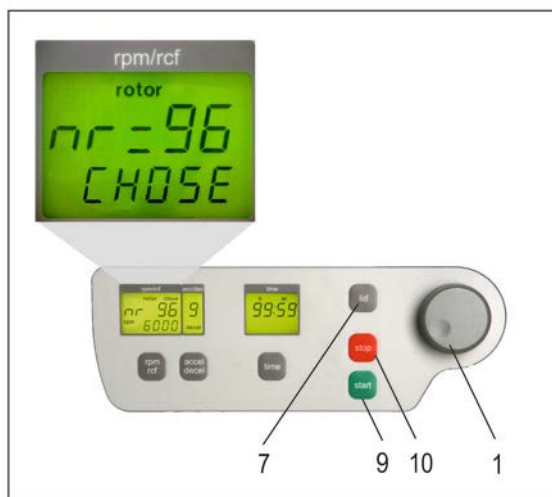

Figure 1
Switch on the unit and open the lid. Press simultaneously, the keys "lid" (7) and "stop" (10). In the display, "rpm/rcf" (A-1) appears the old previous rotor type, i. e. "96". With the potentiometer (1), choose the used rotor now, (see Figure 1). To select the data in the unit, please press the "start" (9) key.